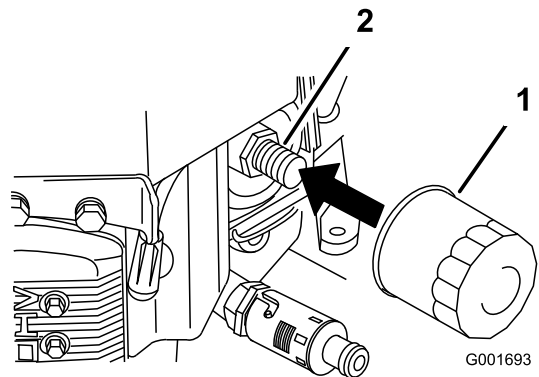

Figure 35
2. Remove the old filter (Figure 35).
3. Apply a thin coat of new oil to the rubber gasket on the replacement filter (Figure 35).
4. Install the replacement oil filter to the filter adapter, turn the oil filter clockwise until the rubber gasket contacts the filter adapter, then tighten the filter an additional 3/4 turn (Figure 35).